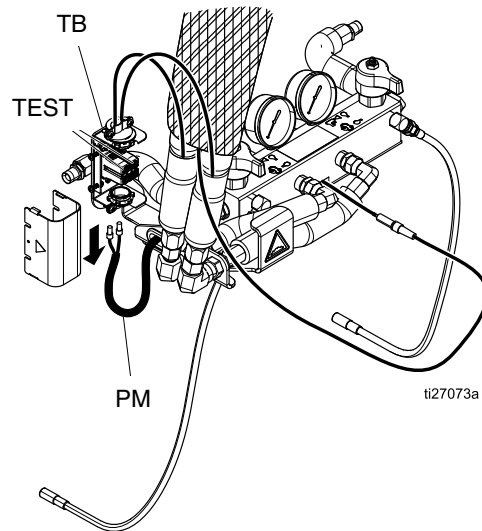

Figure 25
16. To remove heater element, first remove RTD (360) to avoid damage. See step 7, Replace RTD, page 84.
17. Remove heater element (357) from housing (351). Be careful not to spill any fluid left in housing. See Fig. 25.
19. Install new heater element (357), holding mixer (359) so it does not block RTD port (P).
20. Reinstall RTD (360), Replace RTD, page 84.
22. Replace heater shroud (266).